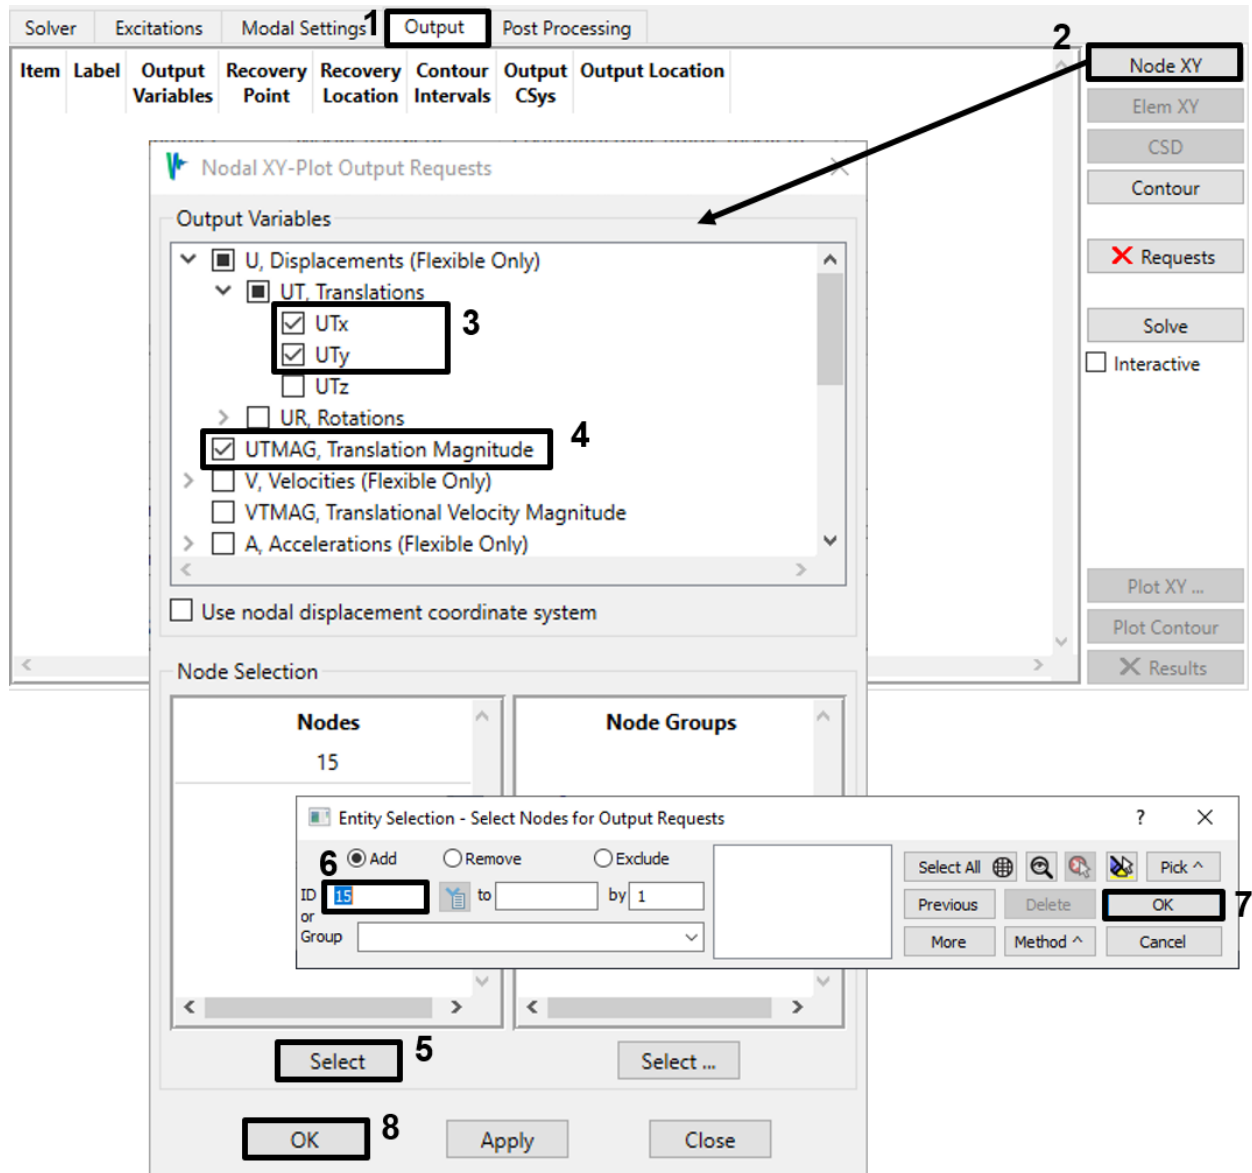

Figure 4-119. Request displacement plots for node 15.
7. Go to the *Output* tab. To get a measurement of the structure's movement over time, create Nodal XY Plot output request for X and Y displacements (U_{tx} , U_{ty}) and displacement magnitude ($UTMAG$) for node 15, as in Figure 4-119.